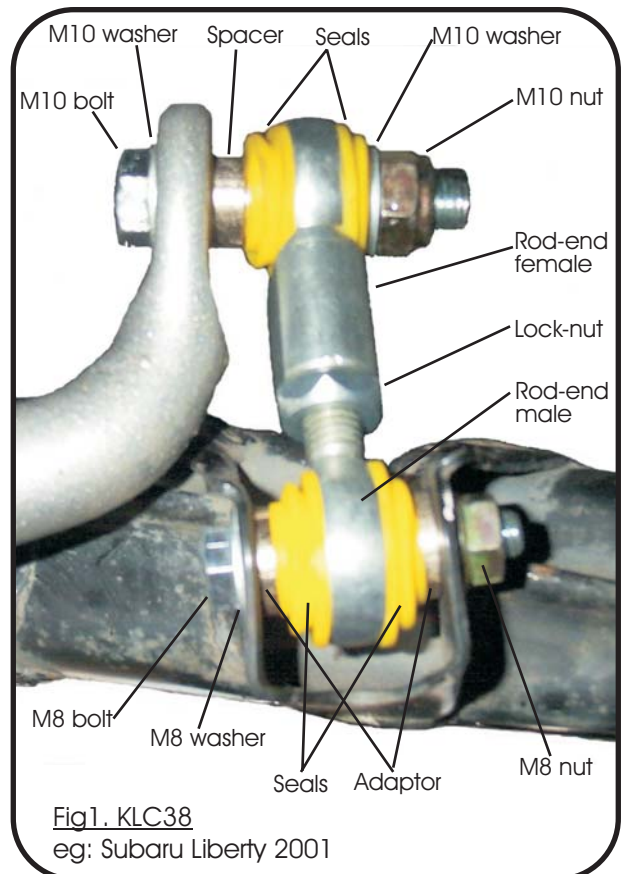

Fig1. KLC38
3. Assemble link, placing dust seals and spacers as shown in Fig.1.